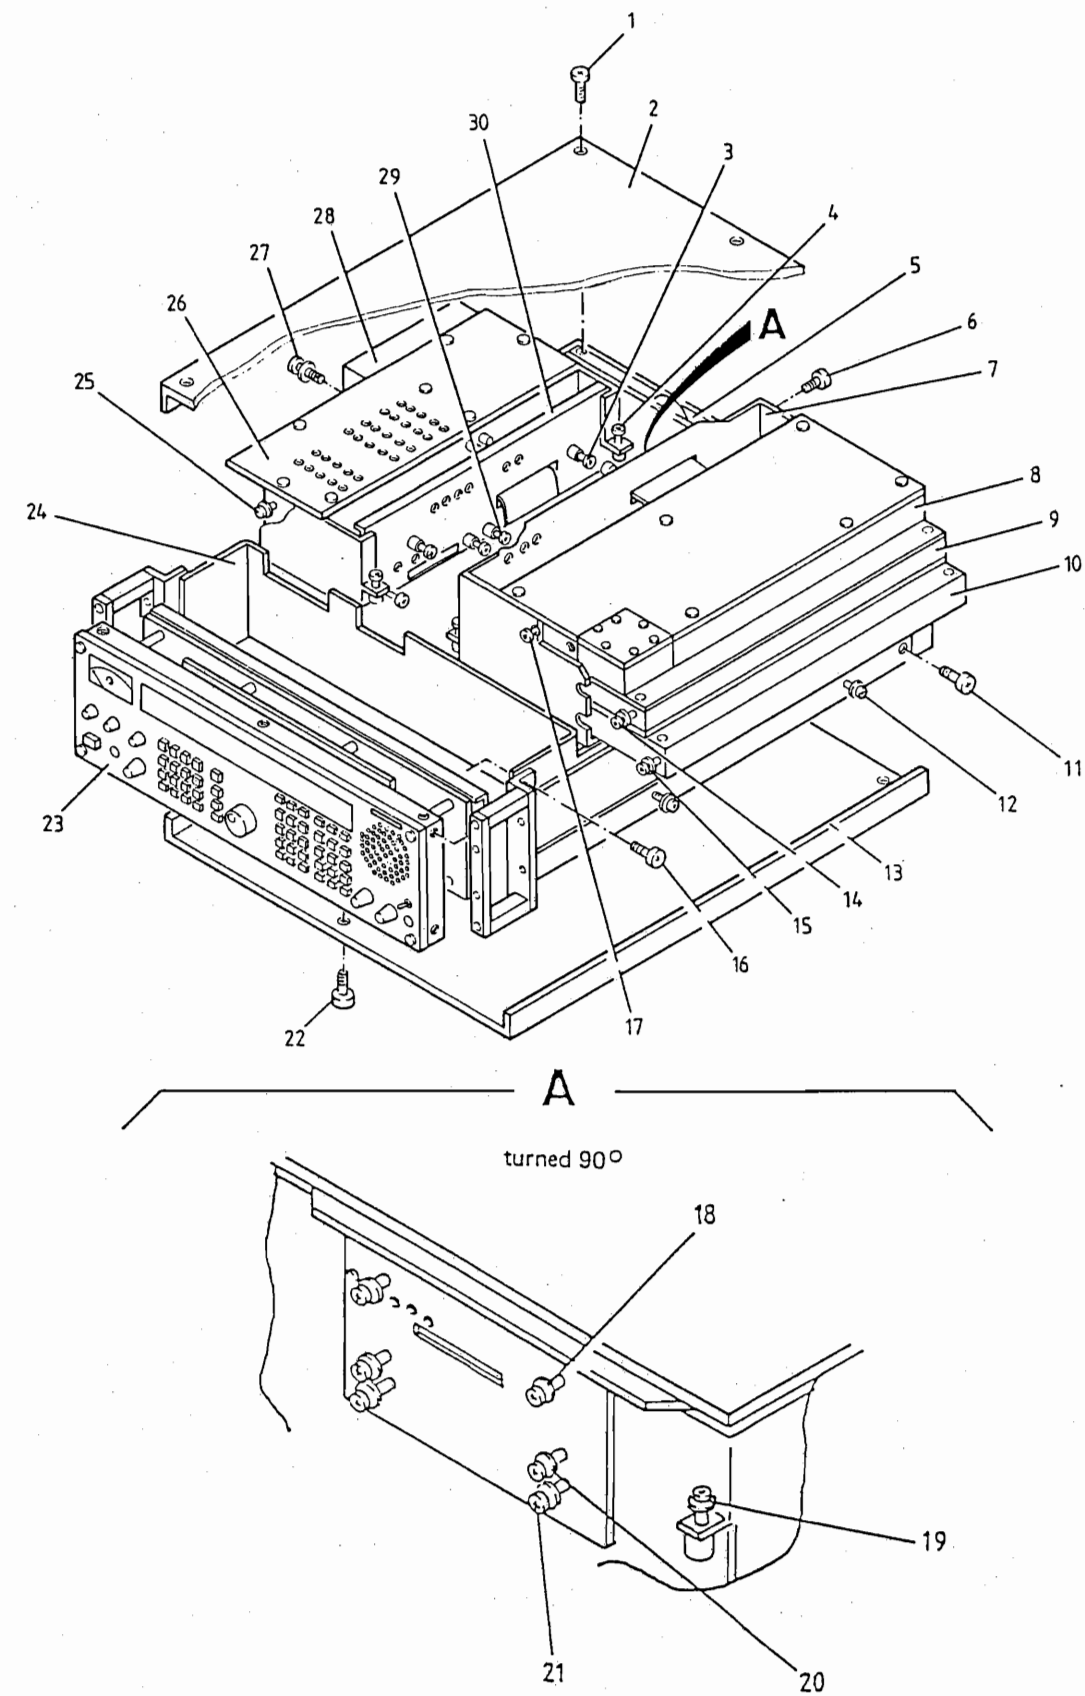

Fig. 6.2 Removal of Control Unit
1. Undo six screws (1, Fig. 6.2) and remove top cover (2) of housing.
2. Undo four screws (22) and remove base cover (13) of housing.
1. Undo four screws (16, Fig. 6.2) and pull out control unit (23) towards front.